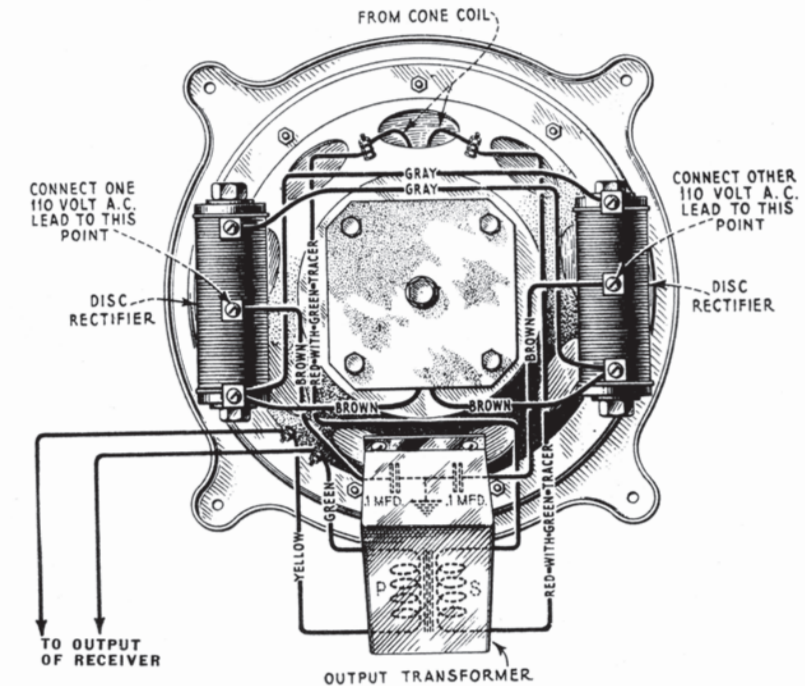

Figure 3—Wiring diagram of reproducer unit
- Defective connections to rectifier or to field, or a defective operating switch. Check all connections carefully against the wiring diagram Figure 3.
The two line condensers may be tested by releasing their two outside leads (Figure 3) and testing from each lead to frame. They should test open. A shorted condenser will necessitate a replacement of the whole unit including the output transformer.
After all testing is completed and the necessary repairs are made, all wiring should be returned to its proper place as indicated in Figure 3.